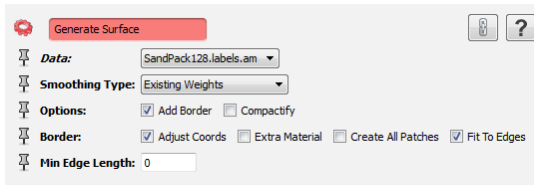

Figure 7.10: *Generate Surface* module parameters.
- Connect a *Generate Surface* module to the label image (see Figure 7.10).